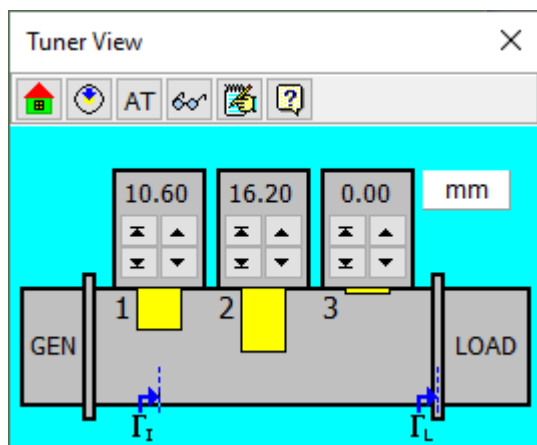

Figure 37. Tuner View window.
**Tuner View** window (Figure 37) enables visual, mouse-based Tuner control and monitoring. The window can be opened by clicking **Tuner|View** menu item or  button. If you wish to change the background color, right-click the background.
If the load reference plane is shifted, the symbol  $\Gamma_L$  in Tuner View window and the associated angled arrow are shifted either to the right (if the extension is positive) or to the left (if the extension is negative) from the default location shown in Figure 37.